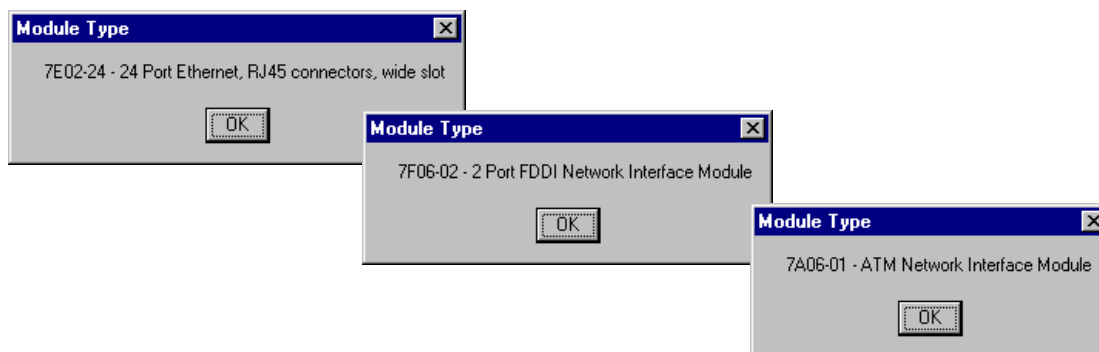

Figure 2-6. Sample Module Type Text Boxes
2. Drag down to **Module Type....** A Module Type text box (similar to the examples shown in Figure 2-6) will appear, describing the board type.